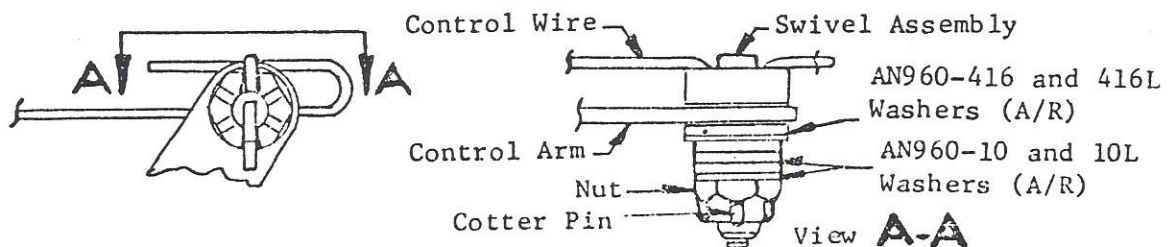

Figure 4. Swivel Fitting Attachment Details.
7. Reinstall airbox on aircraft (See Figure 4 for swivel fitting attachment).